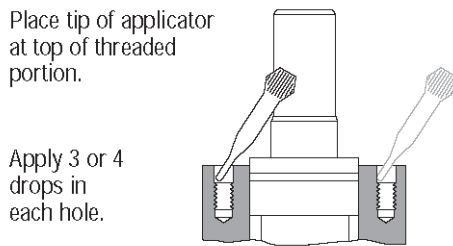

Figure 13
7. Apply 3 or 4 drops of Loctite sealant at top of thread for each of four holes in housing (see Figure 13). Do not allow parts with Loctite applied to come in contact with any metal parts other than those for assembly. Wipe off excess Loctite from housing face, using a nonpetroleum base solvent.